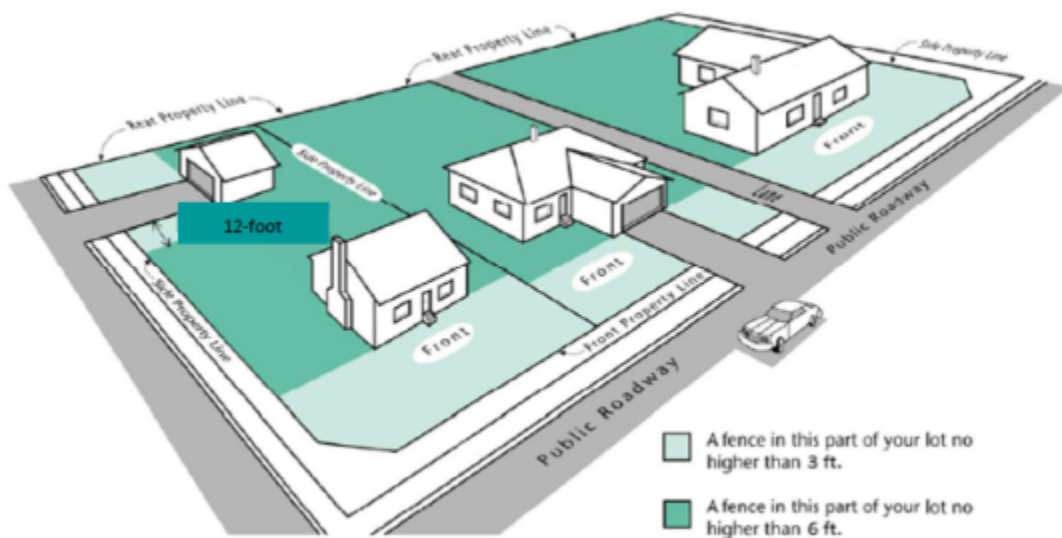

Figure 1.1
- (B) ~~If excavated or filled, the native elevation~~ A pre-manufactured rectangular fence panel of up to ten (10) feet in length or less may be installed horizontally to vertical posts such that one end of the panel is at grade level, and the other end is no more than two-tenths (0.2) of a foot above grade level for each linear foot of fence panel.
- (2) No fence need be less than 48 inches in height.
- (3) The Planning Commission may approve a fence, wall or similar structure not to exceed 10 feet in a rear area or side yard in the A-M, R-M, R-H, C-M, C-H, C-VH, I-H, I-VH, PF-L, PF-M, PF-H, or PF-VH zones as part of a site plan review, or amended site plan, with the findings by the Planning Commission that is to be a benefit to the surrounding properties and/or help to buffer the use, and is in the City's best interest.
- (4) The Zoning Administrator may approve a fence, wall, or similar structure not to exceed a height of eight feet, as a buffering element, where a differing zone district boundary is present. Such fence shall be subject to the following:
- (A) A "permitted use" application shall be submitted to the City for any fence higher than six feet.
- (B) The increased height placement shall be limited to placement or location along a zone district boundary between two differing zones, when and where there is a difference in zone intensity and the higher intensity zone is missing the buffering element of CZC 12.51.070 or between any A-L and R-L Zone boundary.
- (C) In no case shall the increased height be placed, located, or extended into any front yard or street side yard setback requirement of any zone.
- (D) Where utility easements are present, the "permitted use" request shall comply with CZC 12.55.100 Easements.
- (E) All fencing above six feet in height shall comply with any or all applicable building code regulations and/or shall meet the adopted applicable wind loading regulations.
- (5) South side of Porter Lane, from 400 West to Main Street. For all legally approved rear yard fronting lots along the creek channel, the fence height shall not exceed eight feet in height along the rear yard lot line.
- (6) Street Side Yard, Corner Lots. For residential zones, fencing up to 6 feet in height may be allowed within the street side yard portion of a corner lot, as measured from an interior lot line of the lot to a line intersecting at the Front Yard Setback line of the lot along the other street. Exception, fences shall not exceed 4 feet in height for a minimum distance of at least 12 feet, when a driveway on an adjacent lot is located within 12 feet of the interior lot line of the corner lot (see Figure 1.1 for a visual reference).